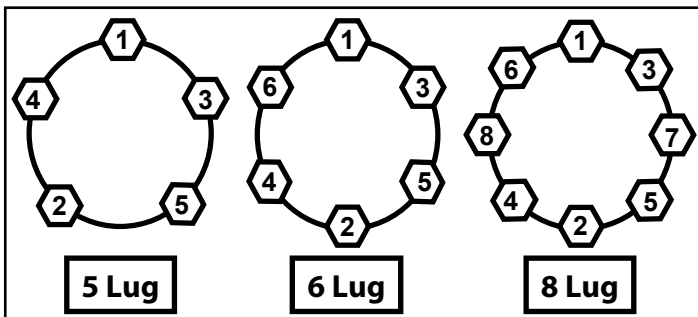

Fig.8
- B.** Continue to hand-tighten wheel lug nuts in the sequential pattern shown in Figure 8.
- C.** After wheel lug nuts are fully hand-tightened, torque nuts in stages and in the sequential pattern shown in Figure 8.